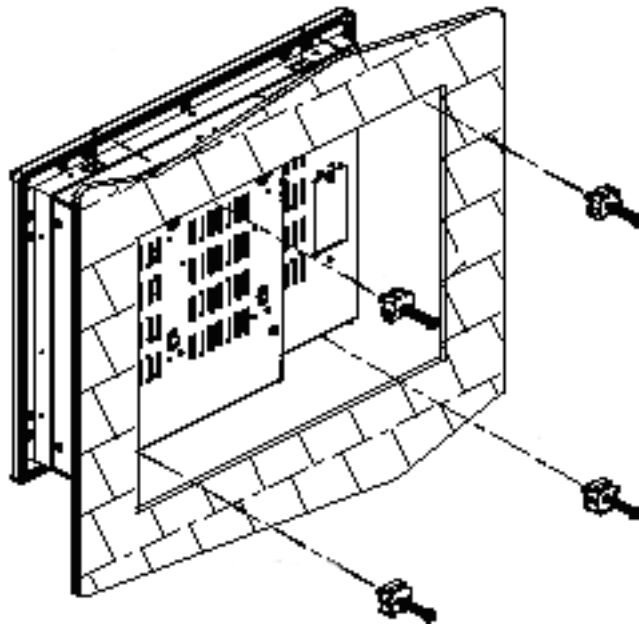

Figure 5-14: Insert the Monitor
Step 3: Slide the monitor through the hole until the metal frame is flush against the panel (Figure 5-14).